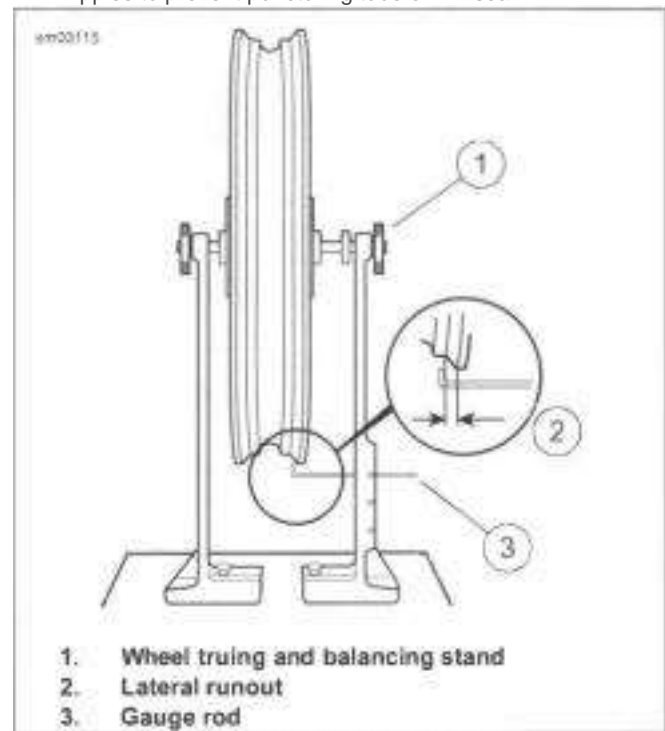

Figure 3-19. Checking Lateral Runout
1. See Figure 3-19. Adjust the gauge rod (3) near to the rim bead flange. If using a dial indicator, place the tip against the bead flange.
2. Rotate the rim slowly to check lateral runout (2). If runout exceeds 0.030 in (0.76 mm), adjust spokes: